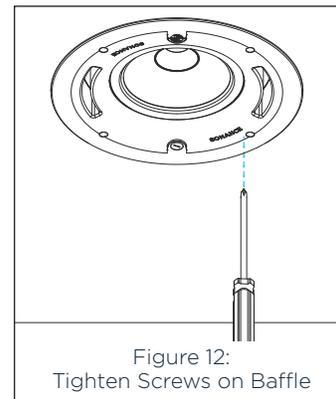

Figure 12:
- Make sure the Roto-Lock Clamps are in the full clockwise position so that all the clamps are tucked into the baffle to fit into the back box opening. Insert the loudspeaker baffle into the opening. Use a screw driver or drill on lowest setting to secure the baffle to the back box via the four dog ear screws around the baffle (see Figure 12).